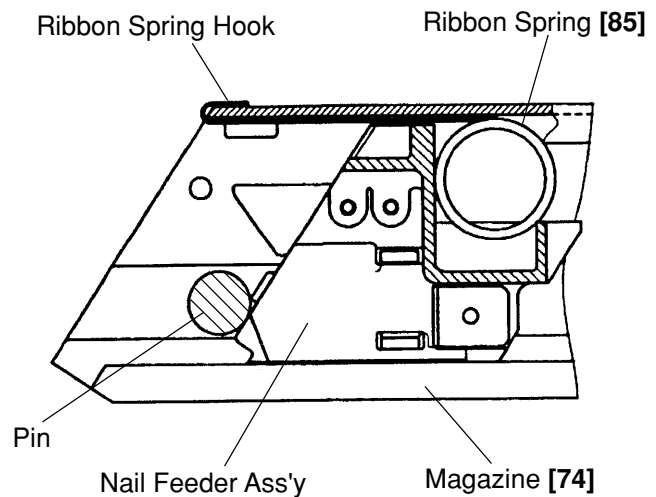

Fig.36
- Hang the hook of the Ribbon Spring [85] on the edge of the Magazine [74] and put the nail feeder ass'y in the Magazine [74]. Then secure the nail feeder ass'y with the pin temporarily (Fig. 36).